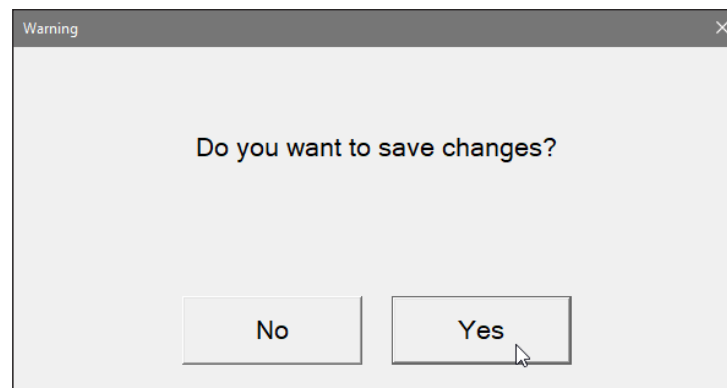

Figure 3.9 Save Changes dialog
- If unsaved changes exist, a Save Changes dialog appears (Figure 3.9).